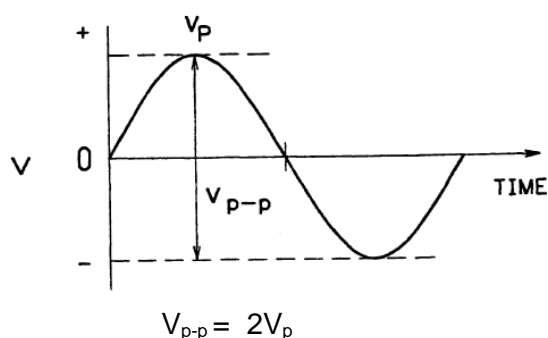

Figure 8 - The peak to peak value of a sine curve
23. The peak to peak value of a sine wave is the value from the instantaneous peak value of one half cycle to the instantaneous peak of the next half cycle. The peak to peak value is double the value of the peak value, and is usually represented by the symbol V_{p-p} . The graphical representation of the peak to peak value is shown in Figure 8.